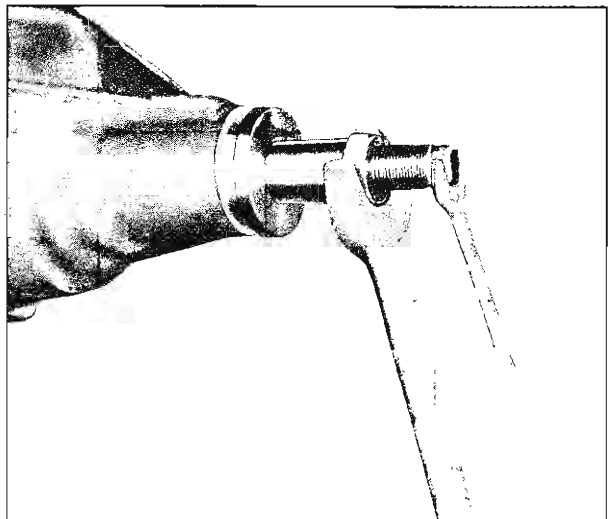

Fig. 48—Drive Pinion Flange Oil Seal Installation (Light-Duty)
10. Pack the cavity between the seal lips of the pinion flange oil seal with a lithium-base extreme pressure lubricant, position seal in bore, then using Tools J-21468 and J-9458, for light-duty axle and Tool J-21057 for heavy-duty axle, press seal into bore until it seats against shoulder (figs. 48 and 49).